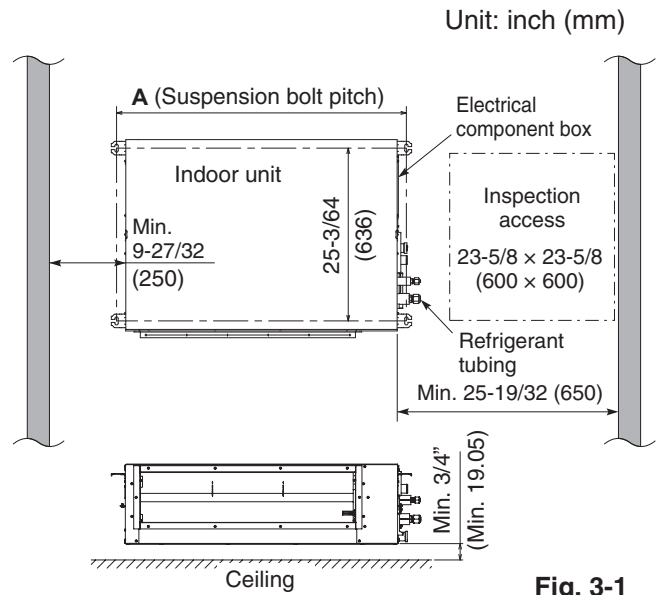

Fig. 3-1
- The minimum space for installation and service is shown in Fig. 3-1 and Table 3-1.
- Space between the unit and the ceiling should be more than 3/4" (19.05 mm). (Fig. 3-1)
- (1) When placing the unit inside the ceiling, determine the pitch of the suspension bolts referring to the dimensional data as shown in Fig. 3-1 and Table 3-2. Tubing must be laid and connected inside the ceiling when suspending the unit. If the ceiling is already constructed, lay the tubing into position for connection to the unit before placing the unit inside the ceiling.